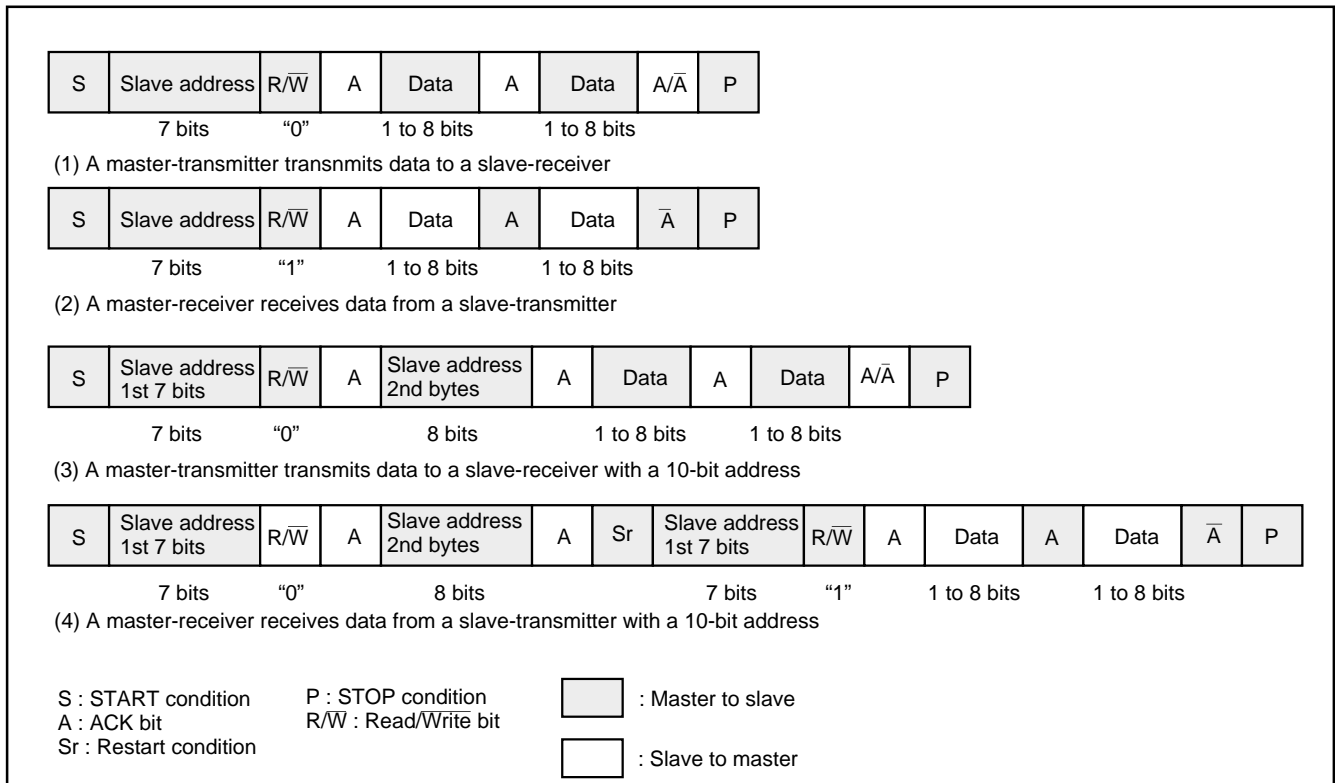

Fig. 36 Address data communication format
To adapt the 7-bit addressing format, set the 10BIT SAD bit of the I²C control register (address 002E16) to “0”. The first 7-bit address data transmitted from the master is compared with the high-order 7-bit slave address stored in the I²C address register (address 002C16). At the time of this comparison, address comparison of the RWB bit of the I²C address register (address 002C16) is not performed. For the data transmission format when the 7-bit addressing format is selected, refer to Figure 36, (1) and (2).
When the first-byte address data agree with the slave address, the AAS bit of the I²C status register (address 002D16) is set to “1”. After the second-byte address data is stored into the I²C data shift register (address 002B16), perform an address comparison between the second-byte data and the slave address by software. When the address data of the 2 bytes agree with the slave address, set the RWB bit of the I²C address register (address 002C16) to “1” by software. This processing can make the 7-bit slave address and R/W data agree, which are received after a RESTART condition is detected, with the value of the I²C address register (address 002C16). For the data transmission format when the 10-bit addressing format is selected, refer to Figure 36, (3) and (4).